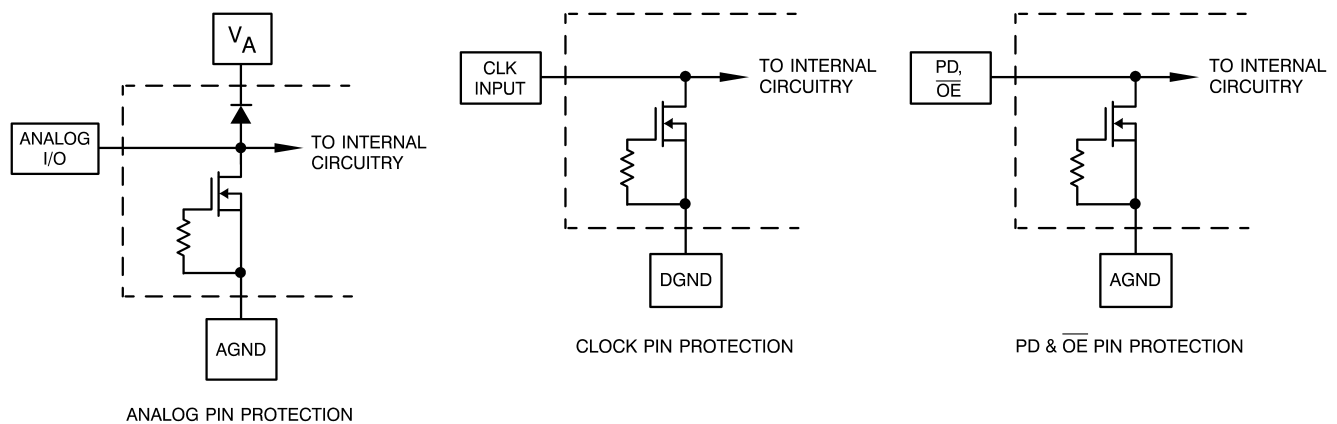

Figure 1.
- (1) The inputs are protected as shown in Figure 1. Input voltage magnitudes up to 500mV beyond the supply rails will not damage this device. However, errors in the A/D conversion can occur if the input goes above  $V_A$  or below AGND by more than 300 mV.
- (2) Typical figures are at  $T_A = T_J = 25^\circ C$ , and represent most likely parametric norms.
- (3) Tested limits are guaranteed to TI's AOQL (Average Outgoing Quality Level).